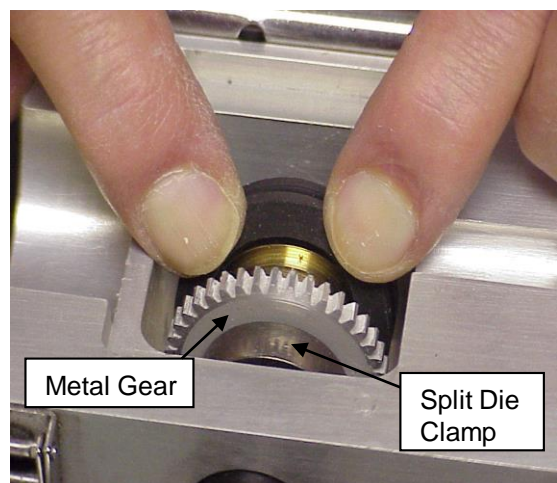

Figure 49
13.8.3 Use large 7/16" Allen wrench to loosen Split Die Clamp machine screw. **See Fig. 49.**